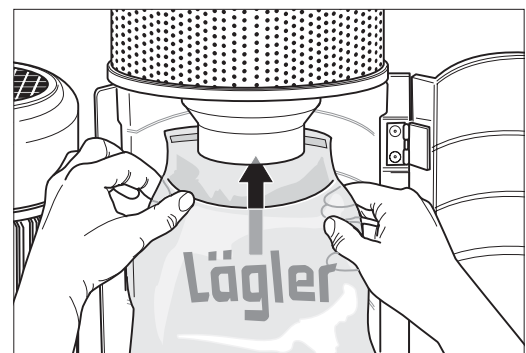

Fig. 16 Make sure the dust bag is in the correct position in the container (print towards you, adhesive strip towards the rear).
- 9 Slip the opening of new dust bag over the neck of the dust separator. The side of the dust bag with the print on it must be facing you (Fig. 16).